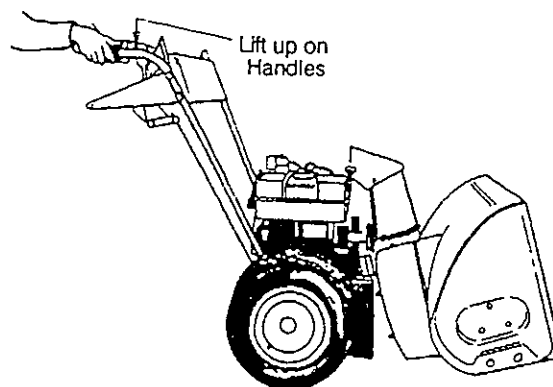

FIGURE 26
- Separate the housing from the frame assembly by standing in the operating position and lifting up on the handles. The frame and housing will separate, and the rear auger drive belt will come off the pulleys. See figure 26.